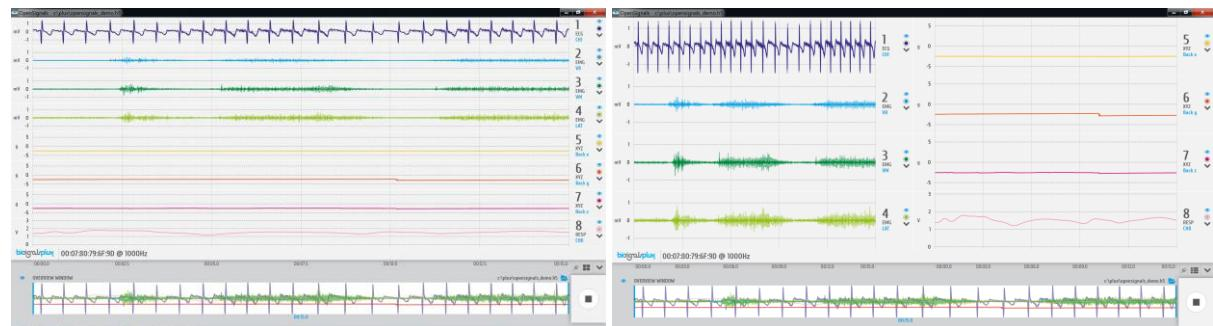

Figure 80: Channel visualization modes.
*OpenSignals (r)evolution* offers two different channel visualization modes (see Figure 80). The first (default) mode displays all the channels stacked vertically in order of the channel number (see Figure 80, left visualization mode). The second type splits the visualization mode vertically in half, displaying half of the channels on the left side of the visualization window and the other half on the right side (see Figure 80, right visualization mode). This mode can be useful when visualizing multiple channels at the same time (e.g. using a 8-channel biosignalsplus).